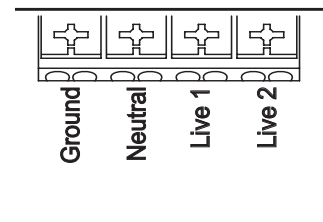

Figure 10: Power terminals
8. See Figure 10. The power terminals block has four spring-loaded terminals labelled **Ground**, **Neutral**, **Live 1** and **Live 2**. Connect the power cable as follows: